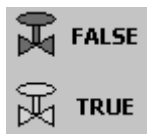

Figure 17.14
7. Repeat step 6 for the TRUE case of the Boolean, using a different valve picture (see Figure 17.14). The TRUE (open) valve picture is also on the CD (`open.png`).